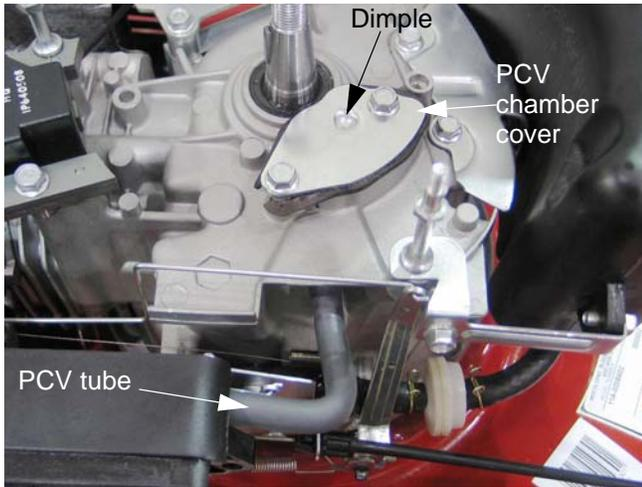

Figure 5.9
2. Remove the two screws that hold the PCV chamber cover to the engine block using a 10mm wrench. See Figure 5.9.